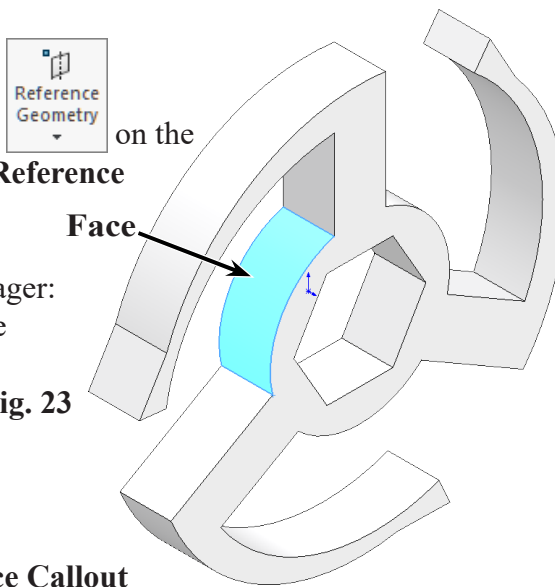
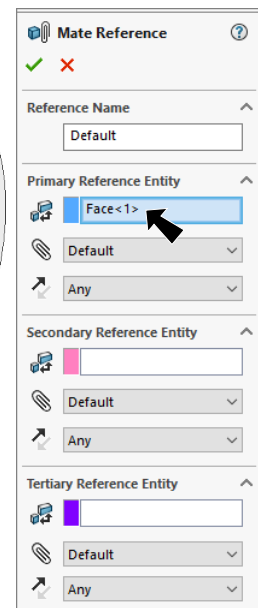

Fig. 23
Fig. 22
Step 2. In the Mate Reference Manager: under Primary Reference Entity, **Fig. 22** click **cylindrical face**, **Fig. 23** click OK .